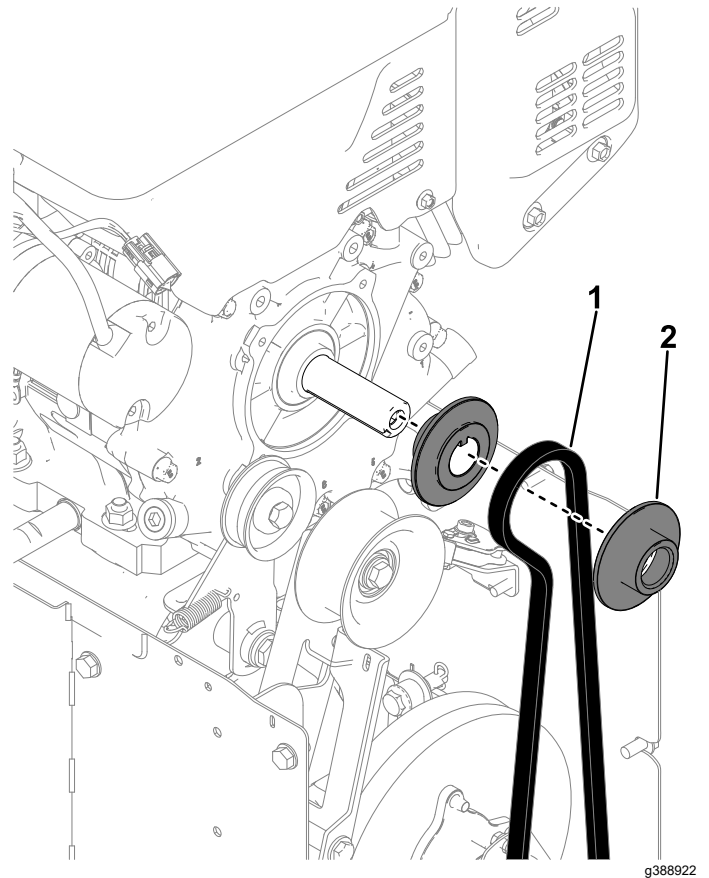

Figure 8
3. Remove the 2 traction pulleys and traction belt from the crankshaft (Figure 8).